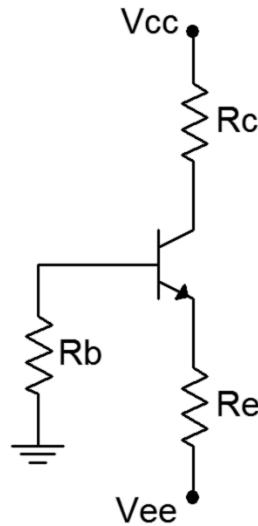

Figure 1
11. Consider the circuit of Figure 1 using $V_{cc} = 15$ volts, $V_{ee} = -12$ volts, $R_b = 33 \text{ k}\Omega$, $R_e = 22 \text{ k}\Omega$ and $R_c = 15 \text{ k}\Omega$. Using the approximation of a negligible base voltage, determine the ideal end points of the DC load line and the Q point, and record these in Table 1.
13. Build the circuit of Figure 1 using $V_{cc} = 15$ volts, $V_{ee} = -12$ volts, $R_b = 33 \text{ k}\Omega$, $R_e = 22 \text{ k}\Omega$ and $R_c = 15 \text{ k}\Omega$. Measure the base, emitter and collector voltages and record them in the first row of Table 2 (Experimental). Compute the deviations between theoretical and experimental and record these in the first row of Table 2 (% Deviation).
19. Build the circuit of Figure 1 in a simulator. Run a DC simulation and record the resulting transistor voltages in Table 6.